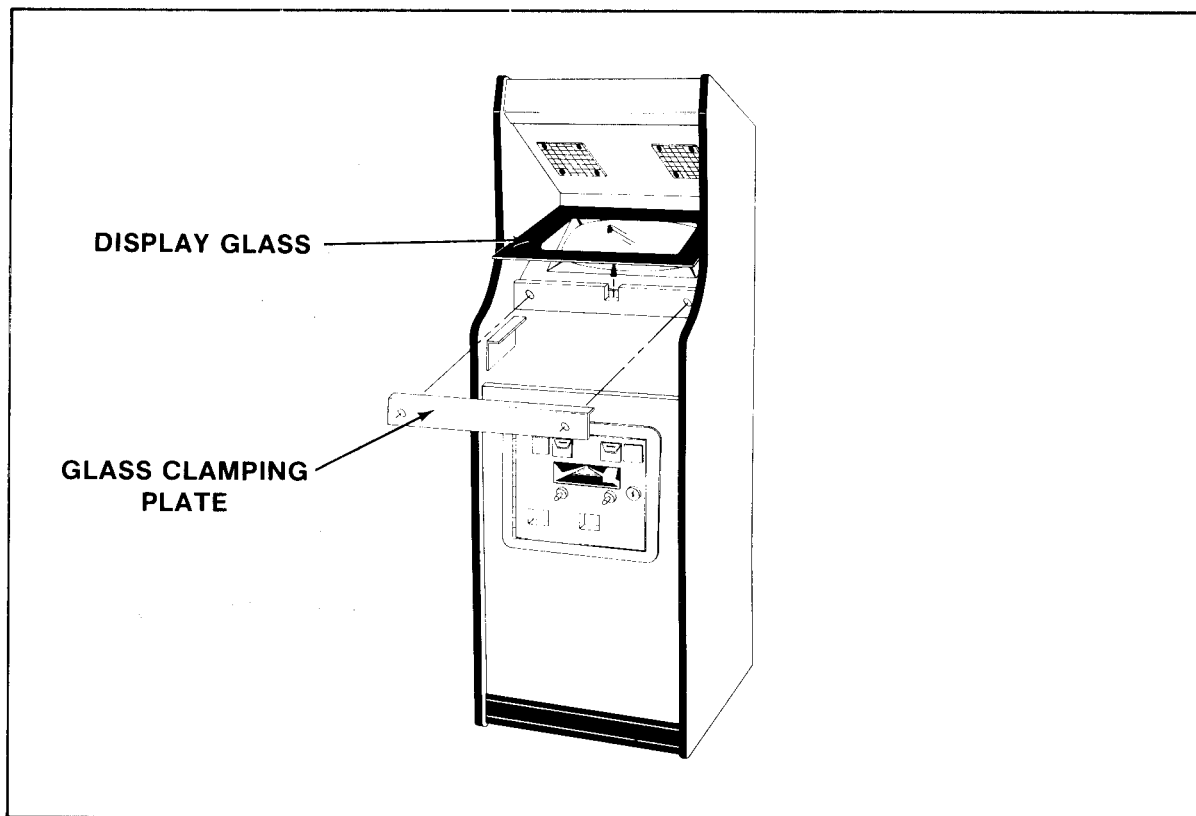

FIGURE 24
- Remove the screws which secure the glass clamping plate. See Figure 24.
- By putting your finger in the hole in the middle of the main-display-glass support, you can lift it up and out. See Figure 24.